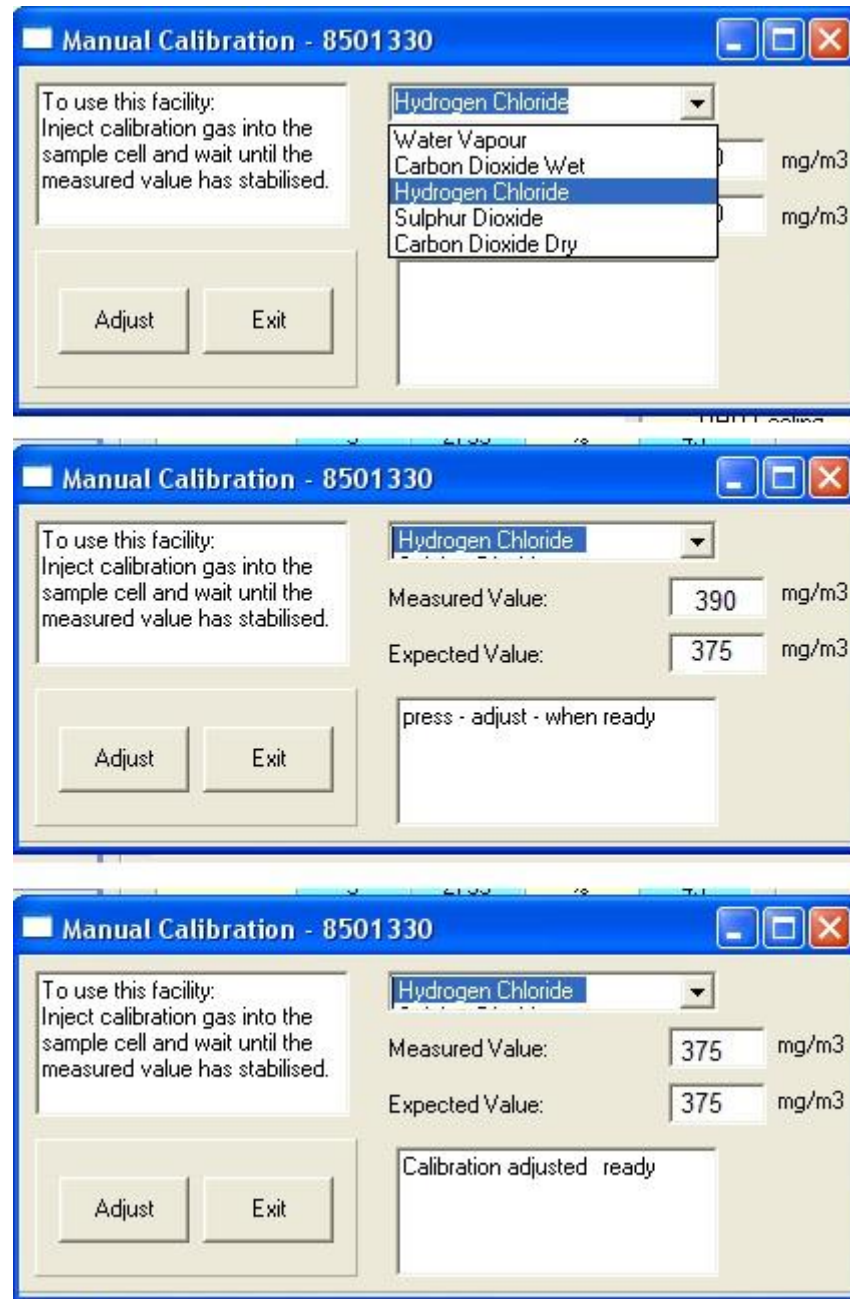

Figure 6-3 Manual Calibration Step-by-step screens
13. After selecting CALIBRATE COMPONENTS the Manual Calibration settings window will open (see figure 6-3). To calibrate the gas in question, select the gas from the drop-down text box, enter the ACTUAL Gas cylinder concentration in the EXPECTED VALUE box, and then click the ADJUST BUTTON.
14. The software automatically recalculates the coefficients for the given gas so that returning to the TEST screen should give the correct reading. An indication in the information window will display a successful calibration. To return to the TEST screen simply select the EXIT button (shown in Figure 6-3). Figure 6-3 shows the selection of *Hydrogen Chloride* from the drop-down menu, and a successful calibration.